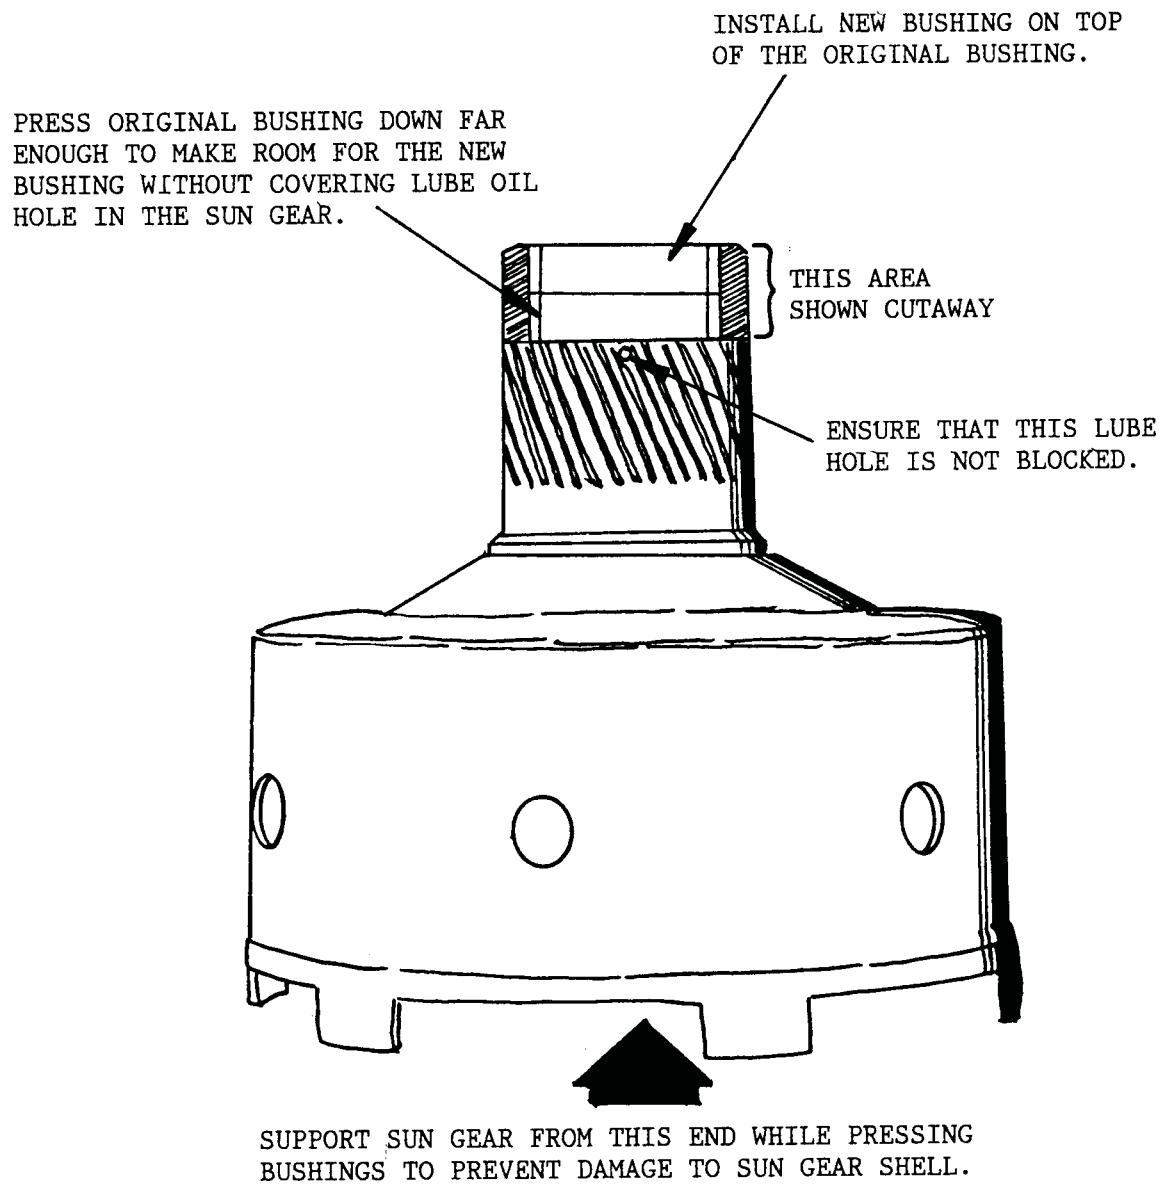

Figure 31
5. Install "Double Bushings" at the rear of sun gear as shown in Figure 31. After both bushings are in place, ensure that lube oil hole in the sun gear is not blocked.